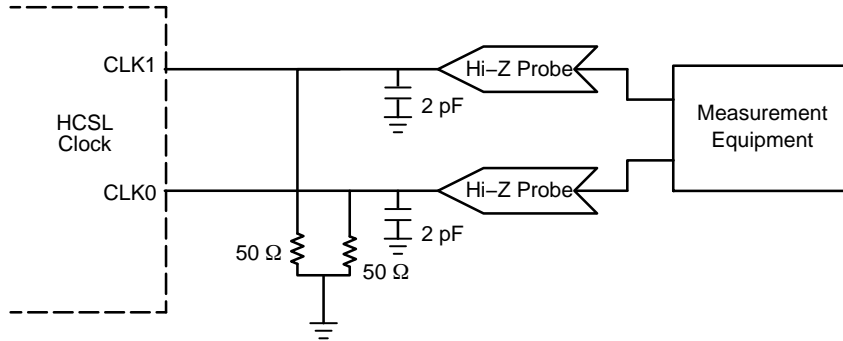

Figure 8. HCSL Parameter Measurement
6. Measurement taken with outputs terminated with  $R_S = 0 \ \Omega$ ,  $R_L = 50 \ \Omega$ , with test load capacitance of 2 pF. See Figure 8. Guaranteed by characterization.